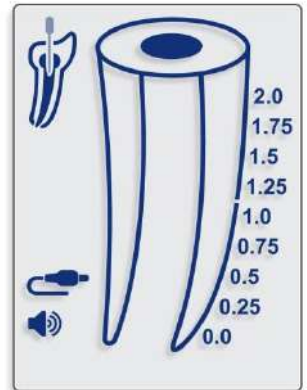

Fig. 4
- 5.4.7. Plug the measuring cable into the device and make sure that the cable icon appears on the display (Fig. 4).